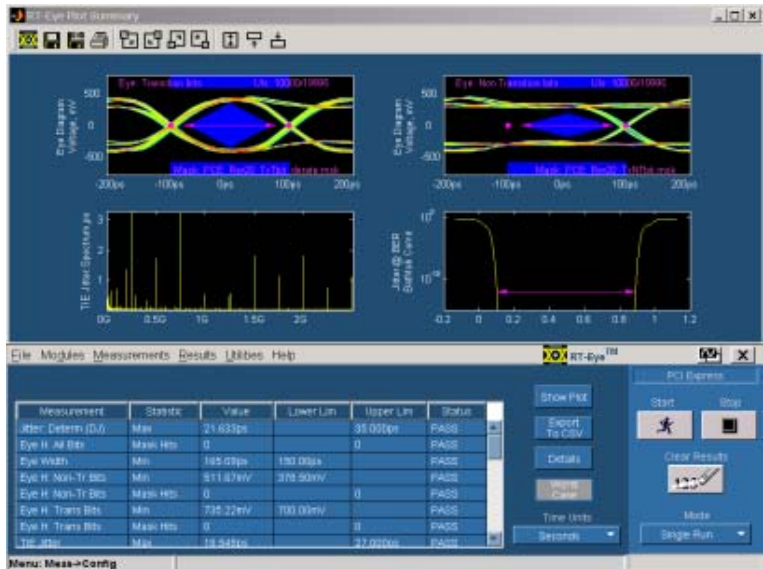

Figure 39: Result of de-rated transmitter test
5. Click **Start**. The results appear as shown in Figure 39. Notice that the new de-rated mask now appears as the Tbit mask and the upper and lower limits are the new values entered into the DTP file.